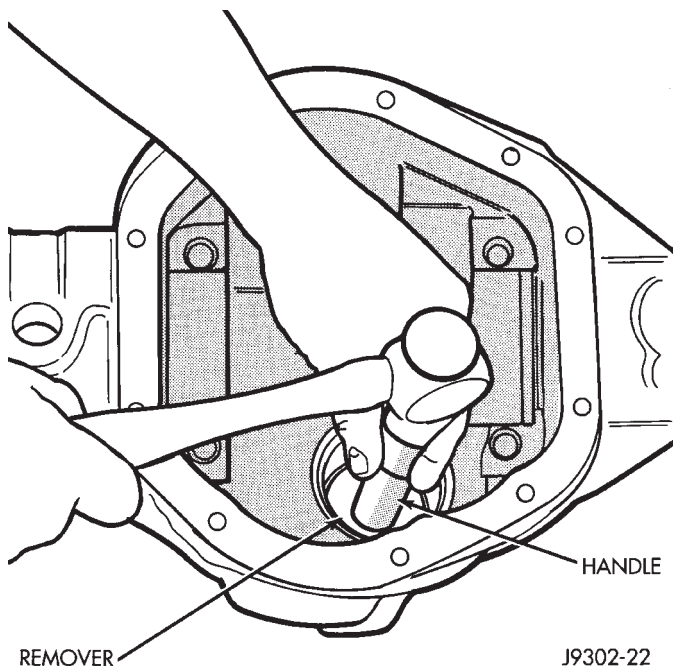

Fig. 23 Front Bearing Cup Removal
(4) Remove the pinion gear seal with a slide hammer or pry out with bar.
(5) Remove oil slinger, front bearing.
(6) Remove the front pinion bearing cup and seal with Remover C-4307 (Fig. 23).